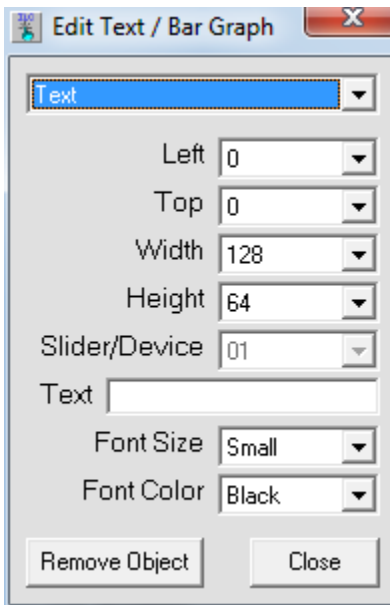

Figure 11 Text / Bar Graph Caption Properties Box
2. From the pull-down menu select “Text” as shown in Figure 11.